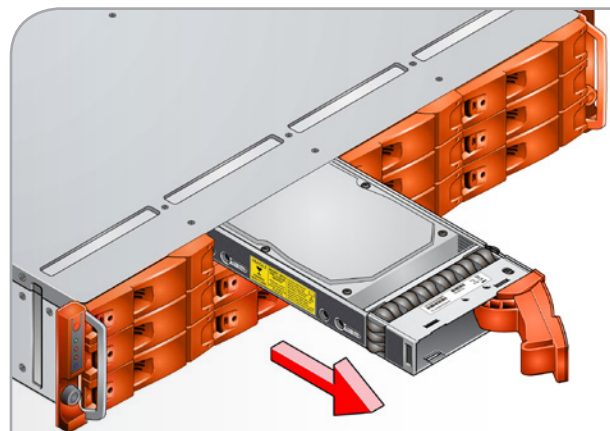

Fig. 45 - Removing a Drive Carrier Module
3. Release the Drive Carrier module handle, by pressing the latch in the handle with your finger and rotating the handle towards the right (Fig. 45).